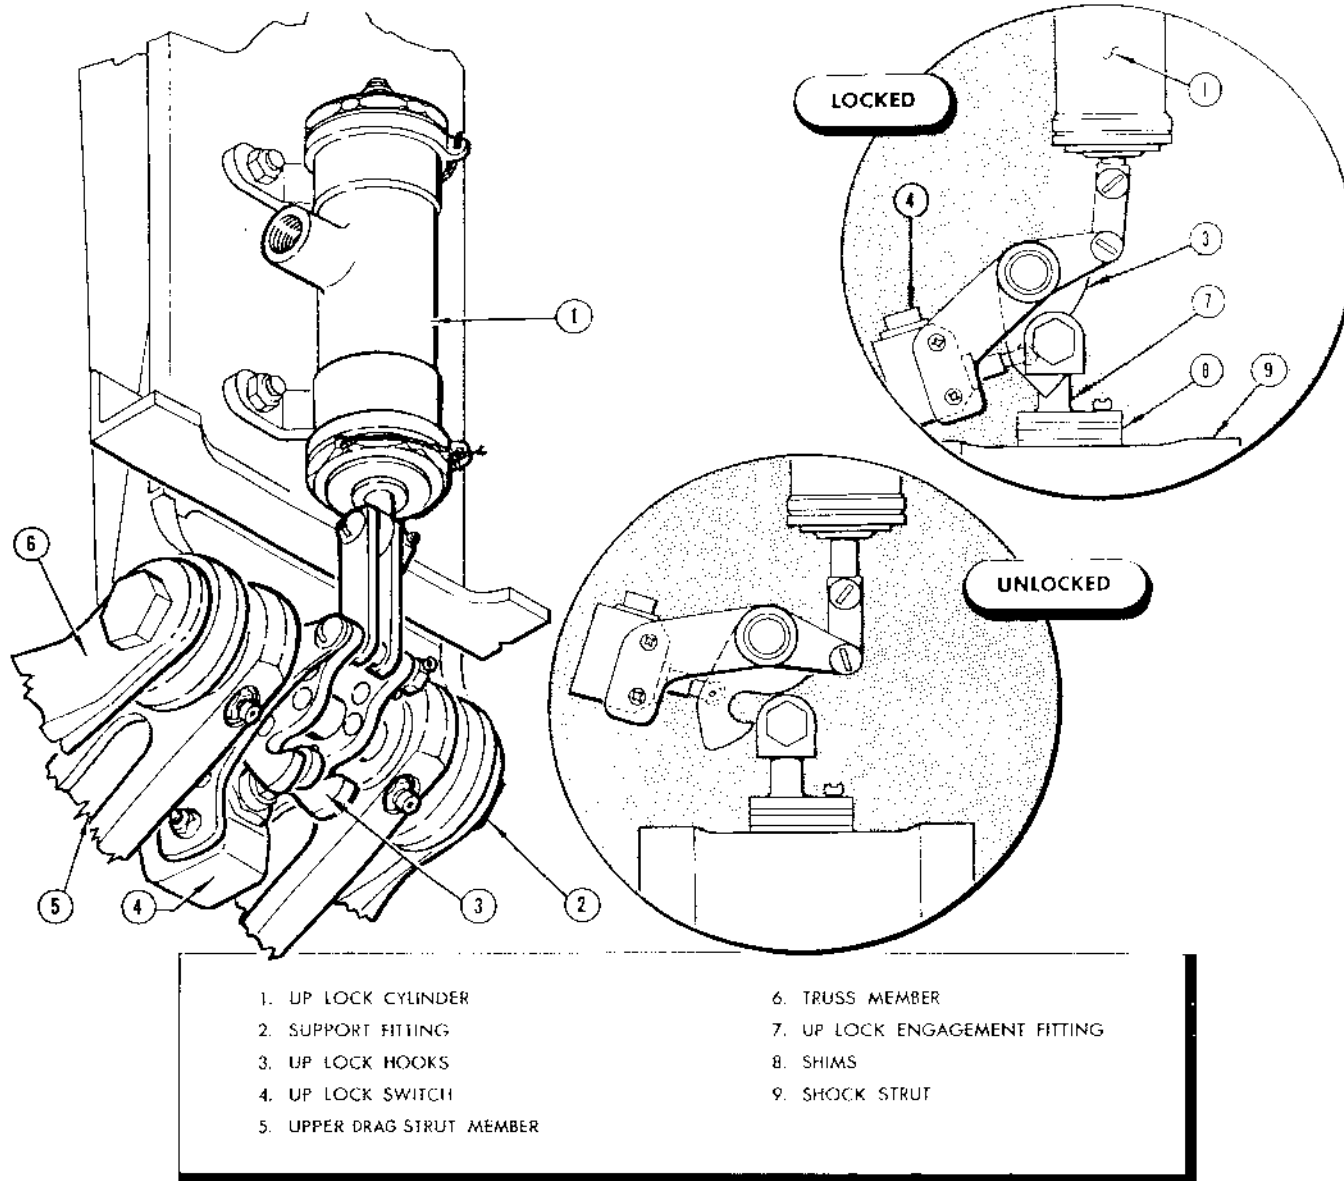

Figure 76 — Nose Gear Drag Strut Upper Pivot and Up Lock
i. UP LOCK MECHANISM, NOSE GEAR. (See figure 76.)—The nose-gear up lock mechanism consists of two hooks, a bolt fitting, and a hydraulic cylinder. The hooks are mounted on the same pivot as the upper drag strut member. A bolt is inserted through the hooks, drag strut, and a support fitting mounted on station 103 bulkhead. The hooks are actuated simultaneously by linkage of the hydraulic up lock cylinder. (For informa-